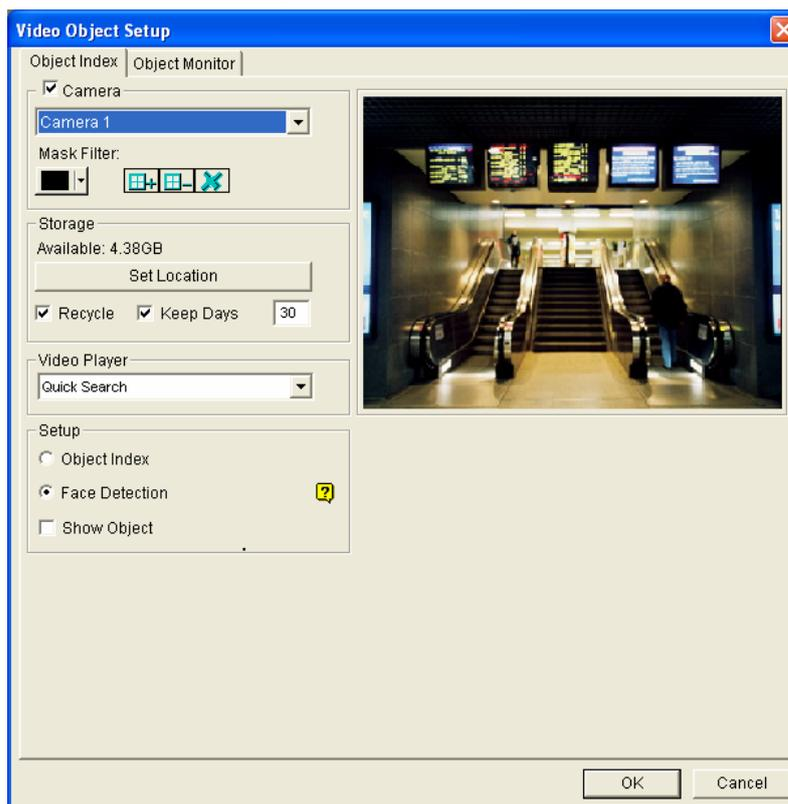

Figure 1-58 Video Object Setup for Object Index
2. Select up to 4 cameras for setup, and then click the **Configure** tab. The Video Object Setup dialog box (Figure 1-58) appears.